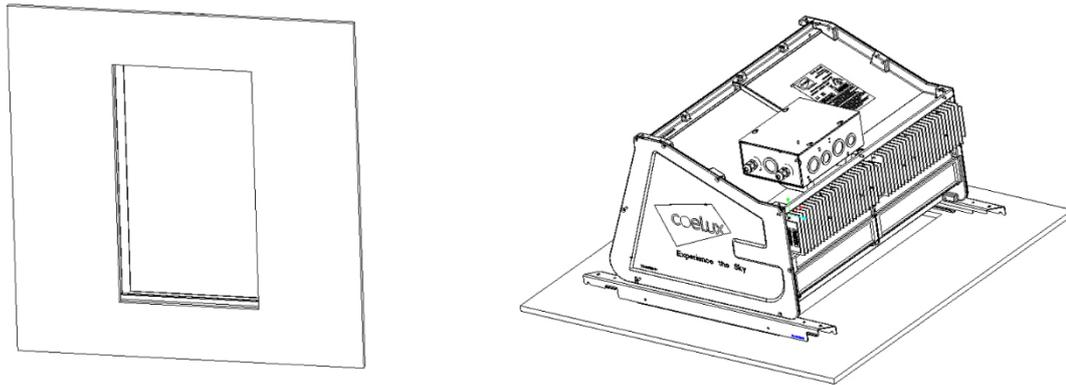

Fig. 13
- B. Make a trapdoor (recommended size 800x800 mm) with a 13mm-thick window 552x322 mm (563x333 mm for the IBLA LOUVRE), and fasten it to the support bars (Figure 13).